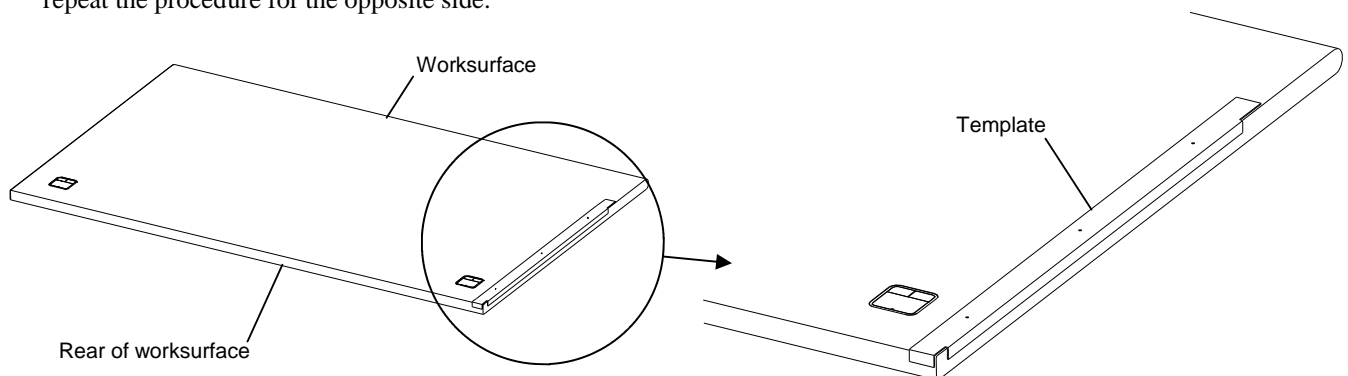

Figure 3.
2. Carefully fold the template along the perforations and place the template on the rear corner of the worksurface as shown in figure 3.